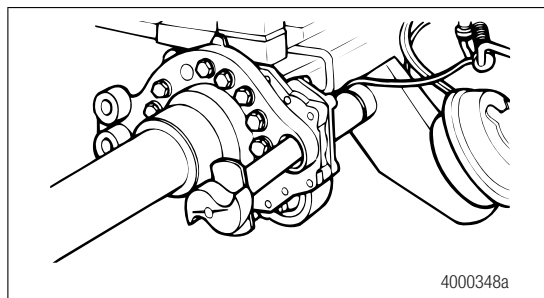

Figure 5.1
2. Install the camshaft through the spider and bracket so that the camshaft turns freely by hand. Figure 5.1.